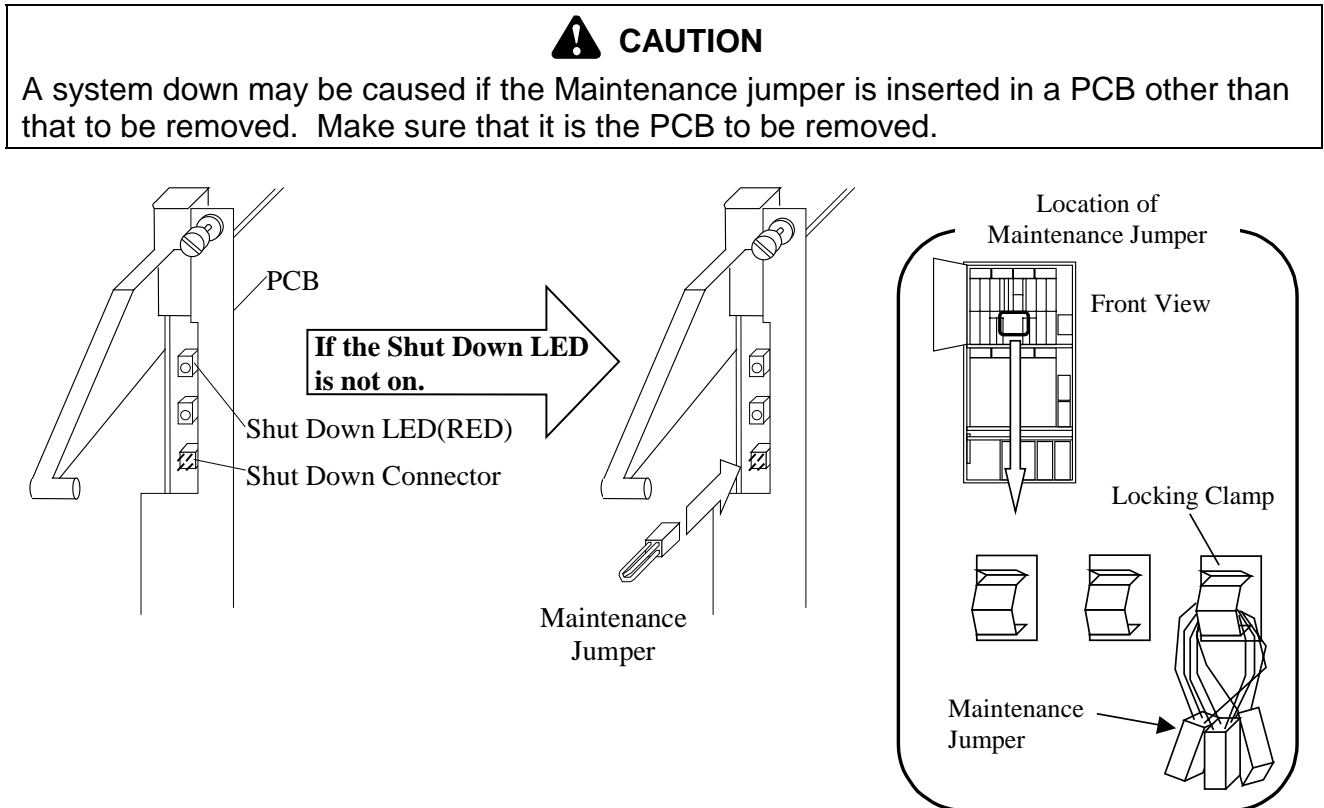

Fig. 4.2.2-1 Location of the Shut Down LED
- a. While referring to Fig. 4.2.2-1 and Table 4.2.2-2, check the Shut Down LED on the Cache Memory PCB. Connect the Maintenance Jumper to the Shut Down Connector if the Shut Down LED is not on.